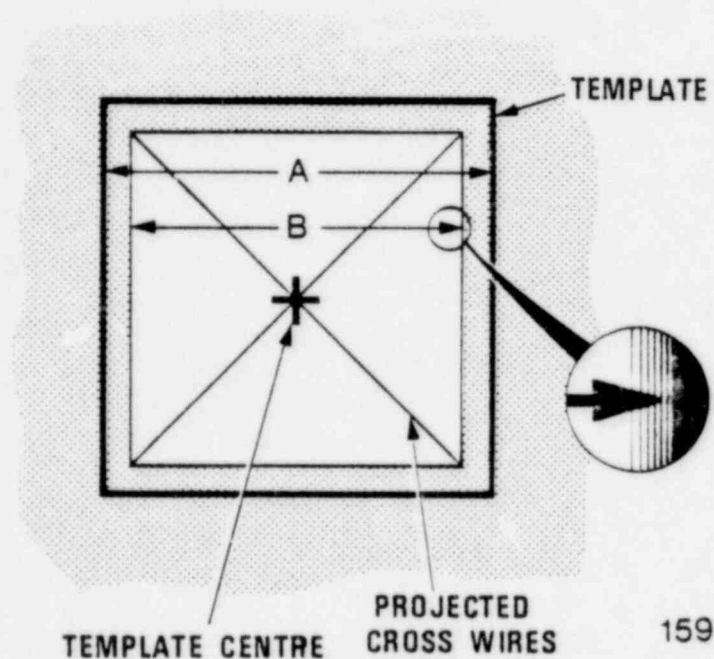

Fig. 4.1. Field Size and Symmetry
- (1) Check field size readout calibration by switching on FIELD light and, using distance indicator, place field size template 80 cm from source.
- (2) Set field size to 10 cm x 10 cm or 30 cm x 30 cm, using the X and Y readouts.
- (3) Using Fig. 4.1, template dimension A should not differ by more than 0.2 cm from field dimension B. Dimension B must be measured between the 50% penumbra lines of the light field.